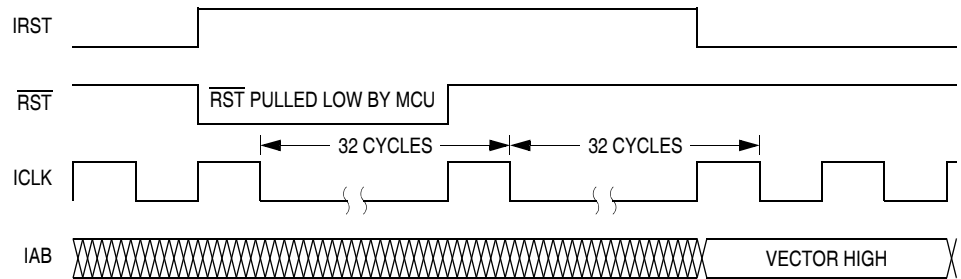
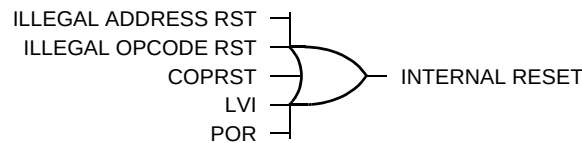

**Figure 9-5. Internal Reset Timing**
**Figure 9-6. Sources of Internal Reset**
All internal reset sources actively pull the  $\overline{\text{RST}}$  pin low for 32 ICLK cycles to allow resetting of external peripherals. The internal reset signal IRST continues to be asserted for an additional 32 cycles (see Figure 9-5). An internal reset can be caused by an illegal address, illegal opcode, COP timeout, LVI, or POR (see Figure 9-6).
**NOTE:** For LVI or POR resets, the SIM cycles through 4096 + 32 ICLK cycles during which the SIM forces the  $\overline{\text{RST}}$  pin low. The internal reset signal then follows the sequence from the falling edge of  $\overline{\text{RST}}$  shown in Figure 9-5.